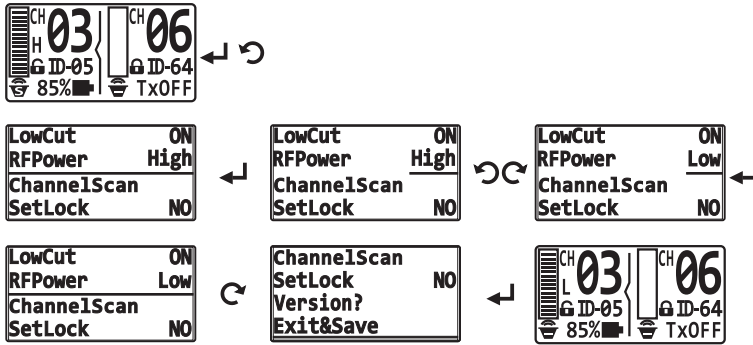

Fig. 22
- (A) Press knob once at Home Screen, turn and locate Low Cut status bar. Press once to activate parameter setting.
- (B) Turn right or left to ON or OFF position.
- (C) Press once to accept change. To save changes, turn and locate Exit & Save status bar, press once to save and return to home screen.
6. Setting RF Power, see Fig. 22: